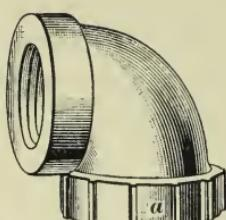

FIG. 6
**19.** Fig. 6 shows a **right-and-left-quarter elbow**, where, as a distinguishing mark, the left-hand end has ribs cast on it, as shown at *a*. Some manufacturers, however, indicate the left-hand thread by the letter *L* marked on the fitting.